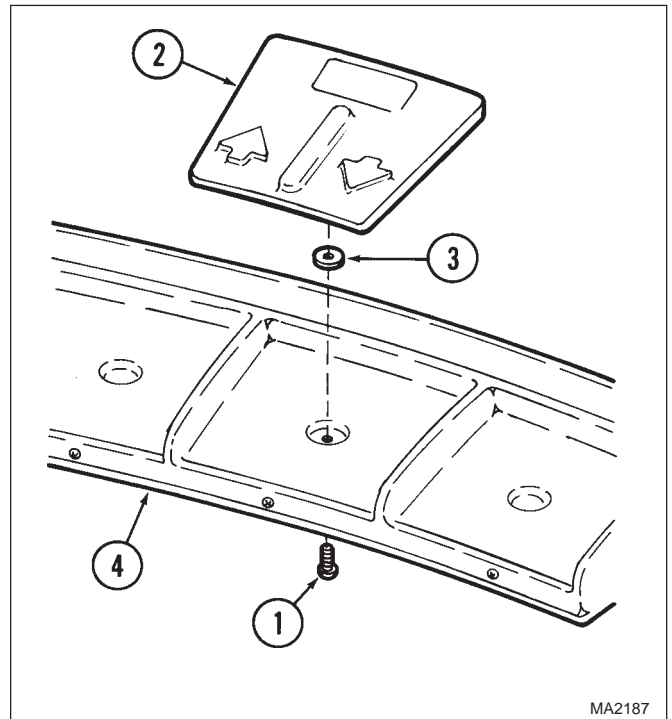

Figure 4-65. Foot Control Assembly Switch Cover Removal / Installation
- (1) Remove screw (1, Figure 4-65), switch cover (2), and washer (3) from foot control housing (4).